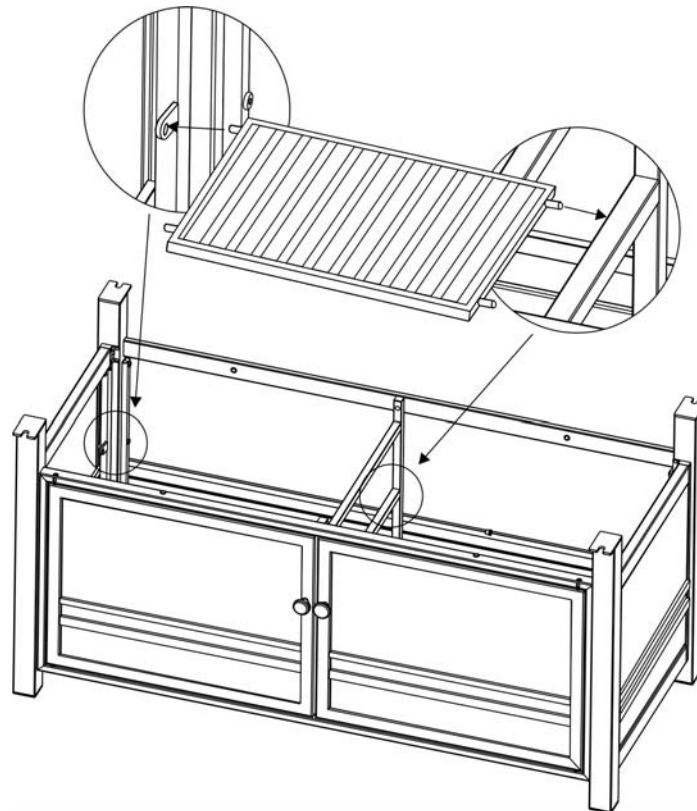

Figure 5
5. Carefully place the middle panel inside back panel with bottom panel as shown in Figure 5.